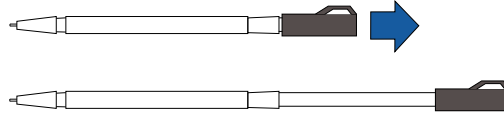

Figure 38 Extending the Stylus
- 2 The stylus can be extended. Use this for touchscreen transactions as shown in Figure 38.